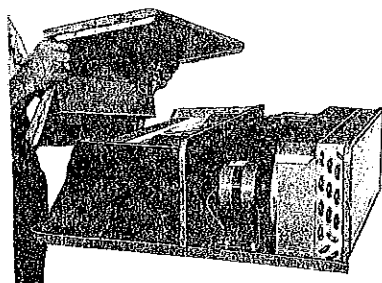

FIGURE 12
3. Remove vaporator shroud by removing the screws which holds it in place. **NOTE: Most of the screws are under the fibre glass insulation, on top and sides of shroud, see Figure 12.**